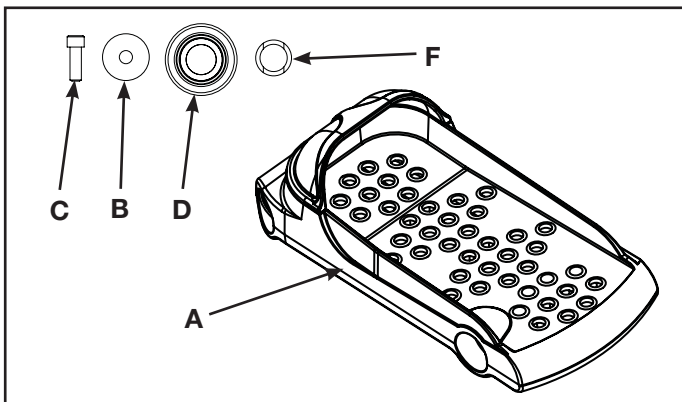

Figure 1 (right foot assembly)
**2. Verify you received the following (see Figure 1):**
- A. Right foot plate assembly (1), **610AK002** (this kit)
- B. Flat washer (4), **HS307602**
- C. SHCS .250-20 x .75 (2), **HX622815**
- D. Spacer (2), **PL-17279**
- F. Wave washer (2), **HS427100**